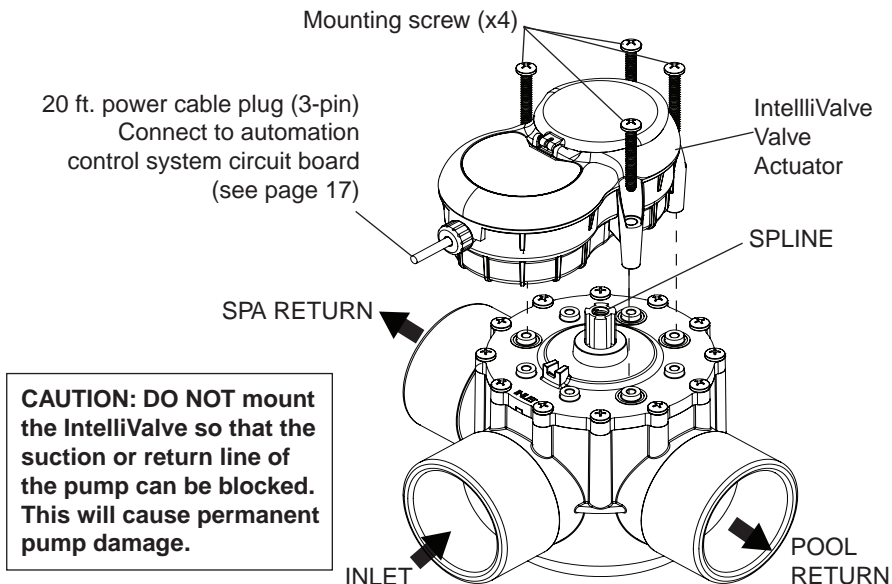
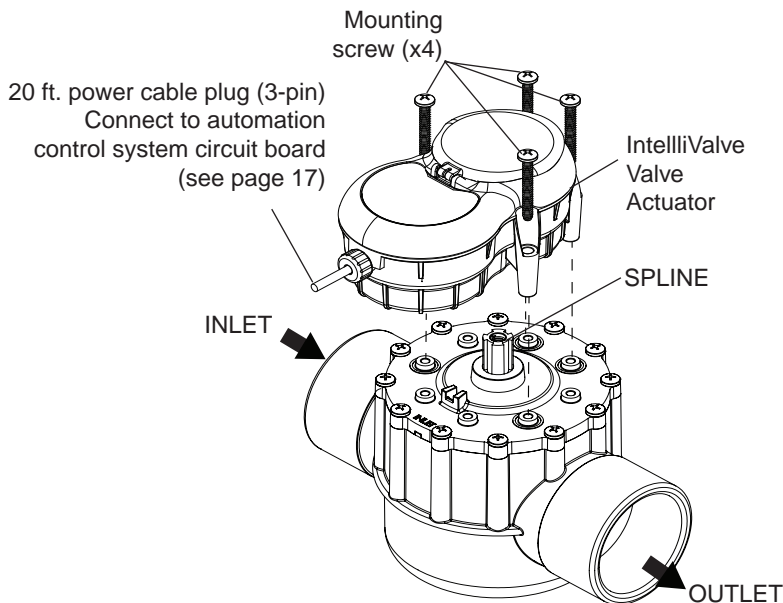

Figure 5. IntelliValve Valve Actuator Mounted on a 3-Port Valve assembly
Figure 6. IntelliValve Valve Actuator Mounted on a 2-Port Valve assembly
3. Mount the IntelliValve valve actuator onto the valve assembly and secure it with the four 2¼ inch mounting screws provided. See Figure 5 and Figure 6. **Note:** DO NOT over tighten the mounting screws.